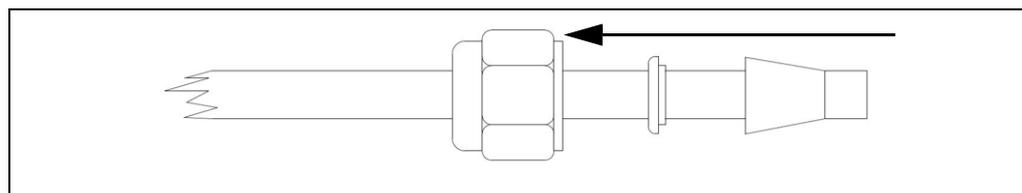

Fig. 9-9 Mounting the new screwing
3. Mount the individual components of the new screwing (see accessory case) to the end of the copper tube as shown in fig. 9-9.